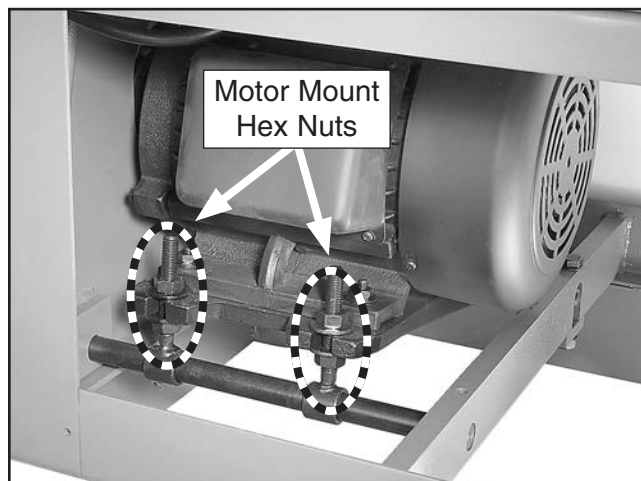

Figure 32. Front cabinet cover removed to expose the motor.
3. Remove the front cabinet panel to access the motor, as shown in **Figure 32**.
5. To adjust the V-belt tension, loosen the top motor mount hex nuts (see **Figure 32**), then adjust the bottom hex nuts to raise or lower the motor.